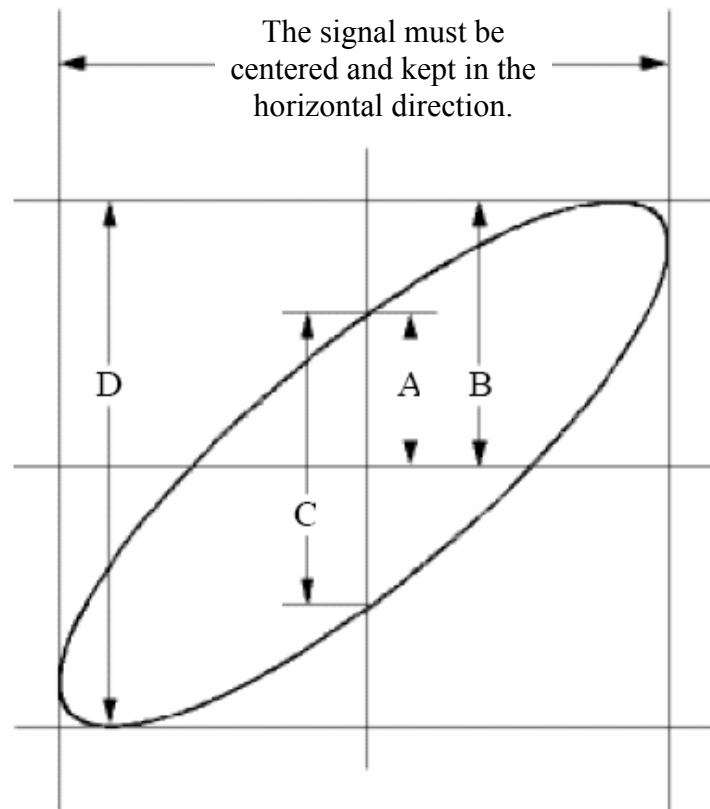

Fig. 60 Lissajous Graph
9. With the elliptical oscillogram method adopted, observe and calculate the phase difference (see Fig. 60).